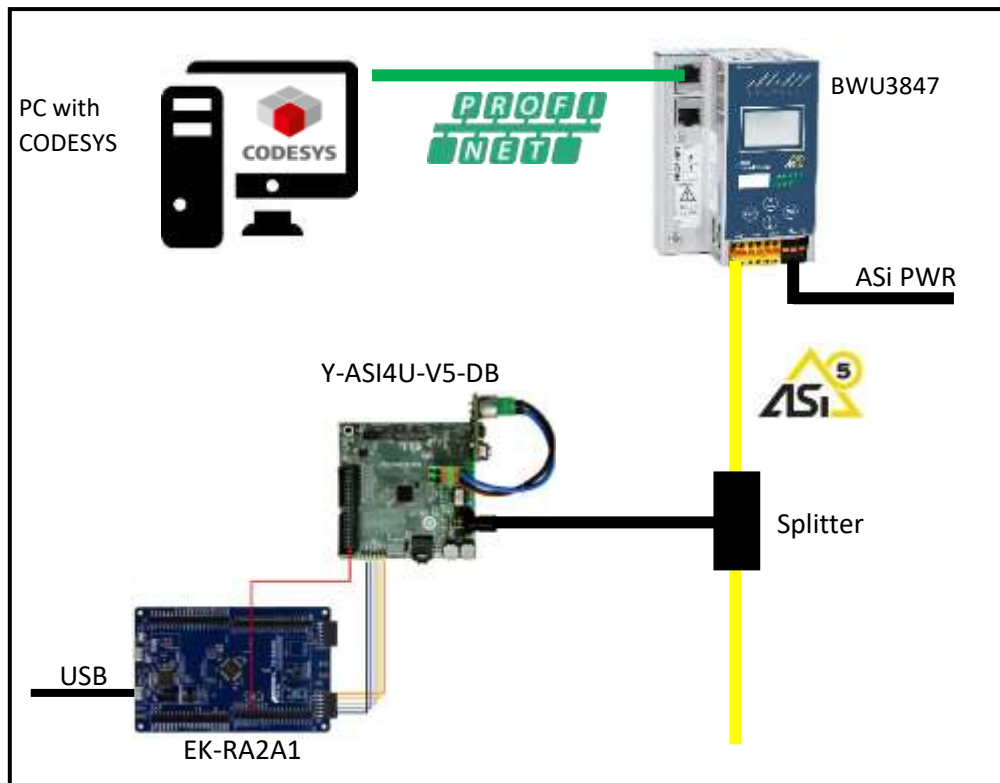

Figure 25. PROFINET/ASi-5 Network Structure
The network (Figure 25) is composed of the following:
1. Set up the network as shown in Figure 25. Power the EK-RA2A1 via USB.